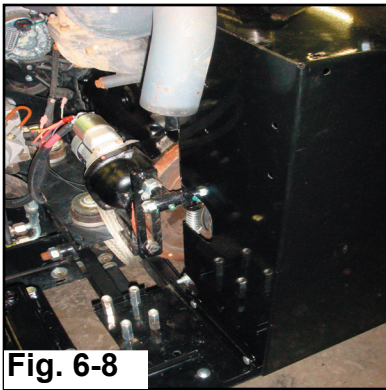

Fig. 6-8
10. In attaching the pulley guard, use the U-bolts and coupler from the engine guard to attach the support bracket to the left side of the frame (Fig. 6-8). Be sure new pulley guard has clearance from the muffler and any other components. Tighten the 1/4"-20 carriage bolts on the pulley guard.